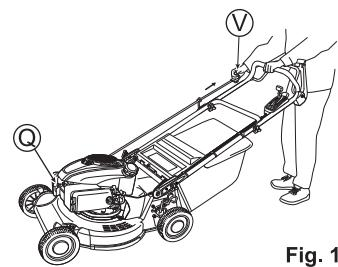

Fig. 11
1. Install the spark plug cap (Q). (See Fig. 11)
4. To start the engine, first grip the handle with your left hand and then grasp the starter knob (V) with your right hand. Gently pull the starter knob (V), stopping temporarily when you feel tension in the cable, and then pull rapidly with force from that position. After that, slowly return the starter knob (V). (See Fig. 11)